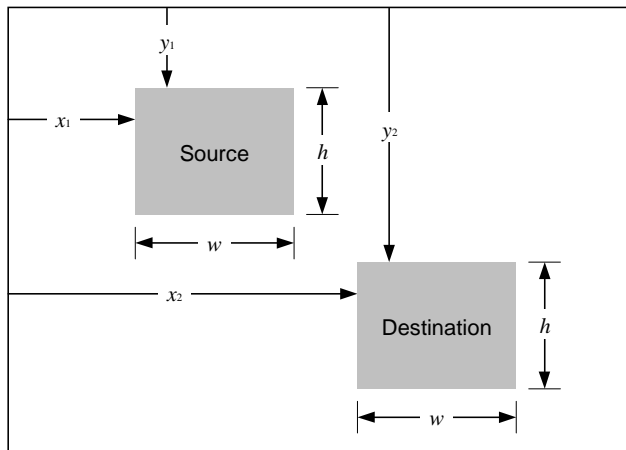

Figure 6-5. Copy an Image from Source to Destination
To copy the screen area named **Source** to the area named **Destination** in Figure 6-5. It is obvious that the pixel types for the source and the destination are the same, say in the aRGB format.
- The location and dimension of the source and destination are (x_1, y_1) , (h, w) and (x_2, y_2) , (h, w) , respectively, as shown in Figure 6-5.